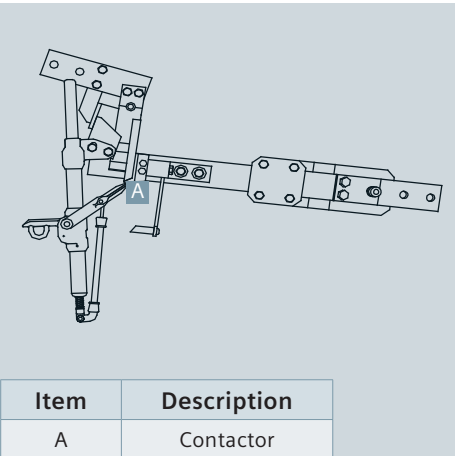

Figure 13: Contactor connection
2. As the blade continues to rotate open, the interrupter lever must make full metal-to-metal contact with the contactor (refer to Figure 13: Contactor connection). At this point, the load then transfers from the auxiliary contacts to the interrupter's lever arm so that the interrupter now carries the full load.